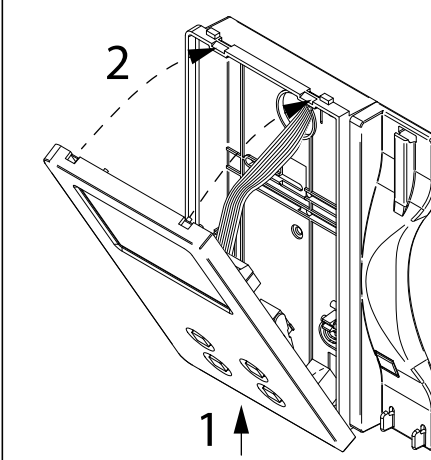

Fig. 5 -
5. Once testing is complete and all the necessary adjustments are made, disconnect the handset from the cover and close the unit as shown in **Fig. 5**: first hook it on the bottom then push in the top until you hear the clip.